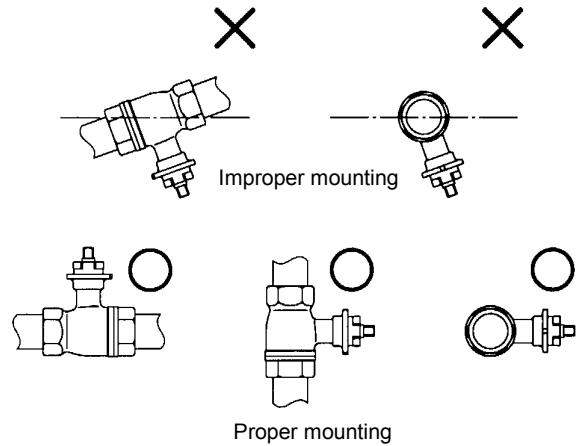

Figure 3. Mounting position
- 7) The valve can be mounted in any position from upright to sideways. The valve should be installed with its actuator vertically positioned above the valve. (See Fig. 3.)